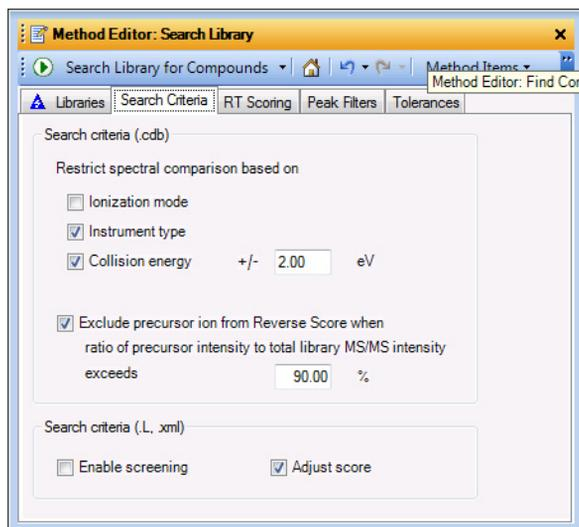

Figure 23 Search Criteria tab.
- d In the **Search Criteria** tab, mark the check boxes for **Collision energy** and **Exclude precursor ion from Reverse Score**. See Figure 23.